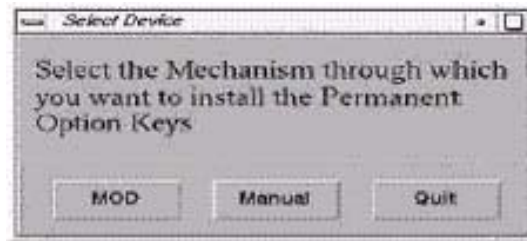

Figure 2-20 Select Device window
- 7.) Click PERMANENT. A Select Device (Figure 2-20) window opens. Select the mechanism through which you want to install the Permanent Option Keys.
Note: The Select Device illustration in Figure 2-20 is outdated — the new window displays selections for MEDIA, Manual, and Quit. Screen requires an update.